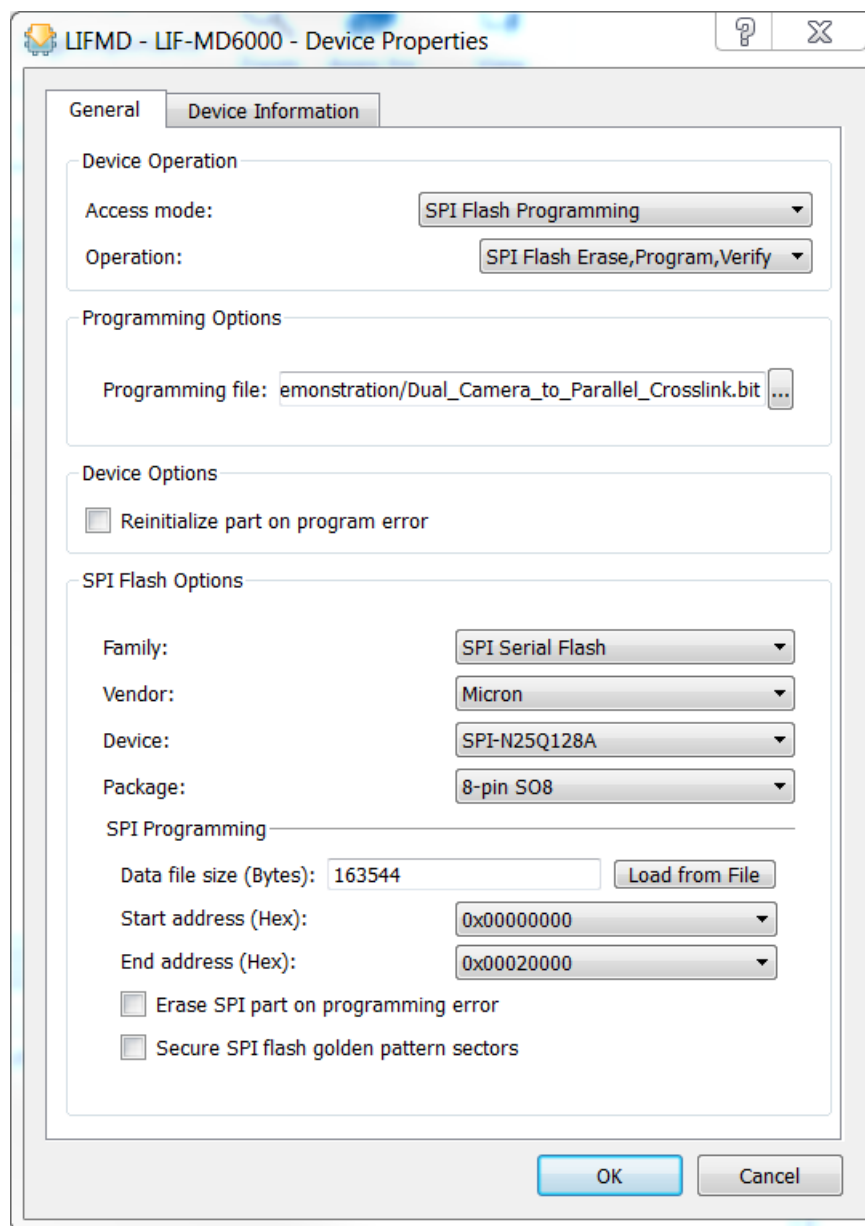

Figure 4.7. Selecting General Options
2. In the Diamond Programmer main interface, click the CrossLink row and select **Edit > Device Properties** to open the **Device Properties** dialog box as shown in Figure 4.7.
Programming the CrossLink VIP Input Bridge Board	- Updated Figure 4.7. Selecting General Options. - Revised the Device Operation and the SPI Flash Options settings for Revision C of the board.
Programming the CrossLink VIP Input Bridge Board	- Updated Figure 4.7. Selecting General Options. - Added SPI Flash Options settings for Revision B of the board. - Revised SPI Flash Options (Vendor, Device, Package) settings for Revision C of the board.